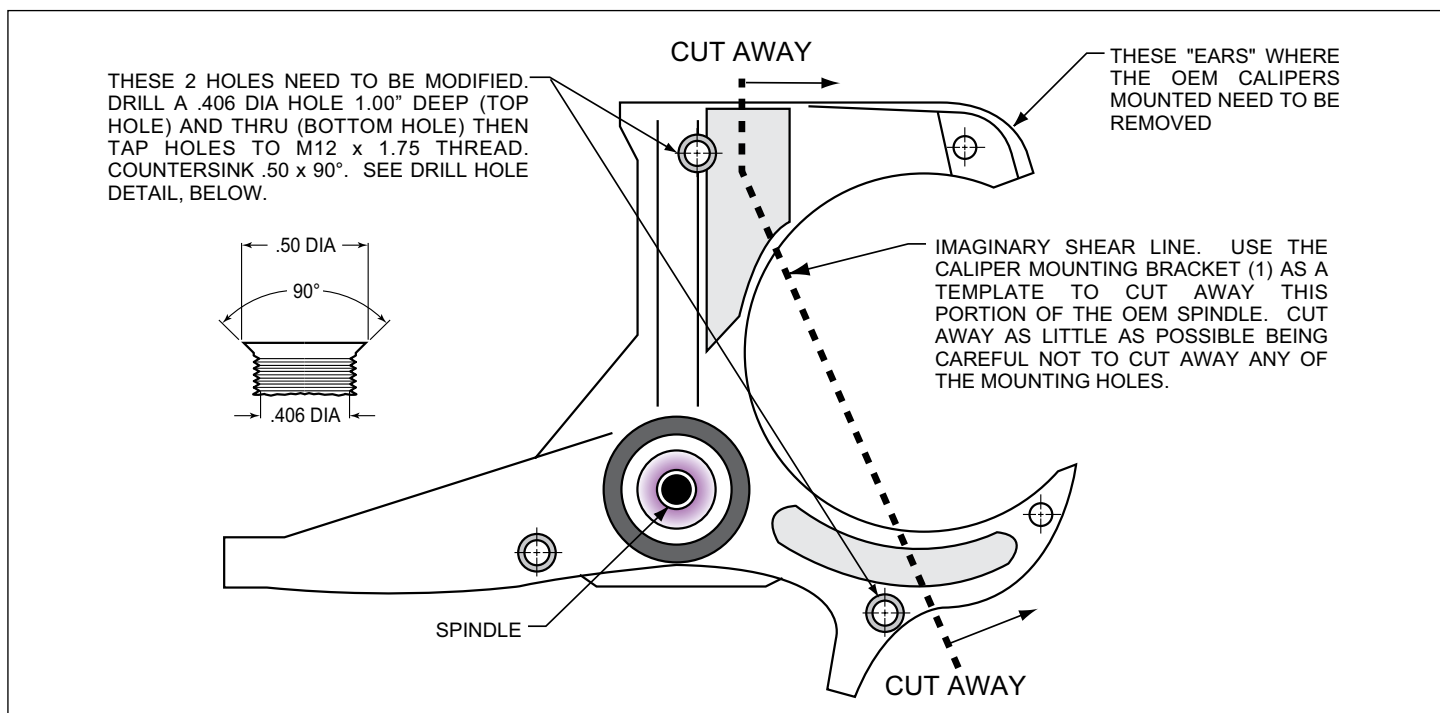
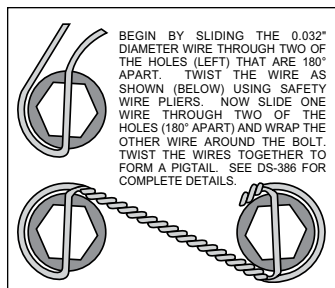

Figure 1. Steering Arm / Spindle Modifications
Figure 4. Safety Wire Diagram
NOTE: These modifications should be performed by a qualified machinist and completed before assembly of the Wilwood disc brake kit begins. Refer to Figure 1. Only one view of the steering arm/spindle is shown, but the modifications need to be performed on both steering arm/spindles.
The two OEM holes that will be used to mount the caliper mounting bracket (1) need to be modified. Drill a .406 diameter hole, 1.00" deep (top hole) and thru (bottom hole), Figure 1, then tap holes to M12 x 1.75 thread. Countersink the holes to .50 x 90°. The "ears" that protrude to form a "C" shape need to be removed to facilitate the installation of the Wilwood kit. Using the bracket as a template, mark two cut marks on the steering arm. Remove as little as necessary from the "C" shape, being careful not to cut away any of the mounting holes required to bolt on the bracket.
- Orient the rotor (9) and the hat (10) as shown in Figure 1 and Photo 4. Attach rotor to hat using bolts (11) and washers (12). Apply red *Loctite*® 271 to the bolt threads and torque to 155 in-lb using a criss-cross pattern. For an added measure of security, the bolts may be safety wired using standard 0.032 inch diameter stainless steel safety wire as shown in Figure 4. Refer to Wilwood's data sheet DS-386 (available at www.wilwood.com/Pdf/DataSheets/ds386.pdf) for complete safety wire installation instructions.
- Slide the hat/rotor assembly (9/10) onto the hub (6) taking care to align the small countersunk holes in the hat (10) with the small threaded holes in the hub. **NOTE:** The hat must fit flush against the hub face or excessive rotor run out may result. Install three flat head screws (17) through the small holes in the hat (10), Photo 6, and torque to 85 in-lb.
- **NOTE:** This kit contains distinct right and left hand calipers that must be mounted in a specific direction, as described below. Initially place two .035" thick shims (22) on each stud (21) between the caliper and the bracket, as shown in Figure 1 and Photo 7. Mount the caliper (18) onto the bracket (1) using lock nuts (19) and washers (20), Figure 1. Ensure that the caliper is mounted so the largest pistons are at the rotor exit end of the caliper, in relation to the direction of rotor rotation. Temporarily tighten the lock nuts and view the rotor through the top opening of the caliper. The rotor should be centered in the caliper, Photo 8. If not, adjust by adding or subtracting shims (4) between the bracket and the upright. Always use the same amount of shims on each of the two mounting bolts. Once the caliper alignment is correct, remove the bracket mounting bolts one at a time, apply red *Loctite*® 271 to the threads, and torque to 60 ft-lb.